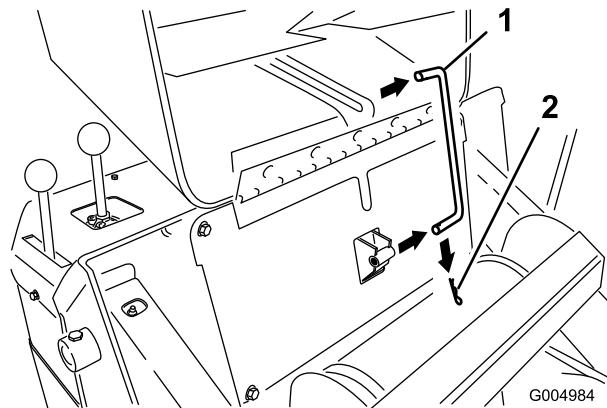

Figure 41
3. Pull the hairpin cotter from the end of the hood prop-rod and slide the prop rod out of the retaining brackets (Figure 41).